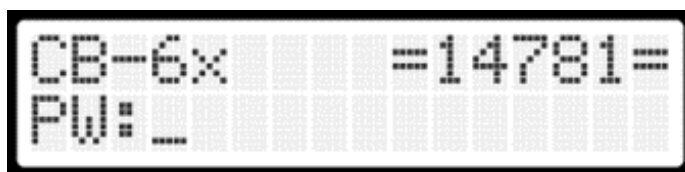

FIGURE 12.1—CONTROL BOX PASSWORD SCREEN
- a. Depress the “HORN OVER-RIDE” button (#0 button). Observe that the screen changes to that displayed in Figure 12.1.